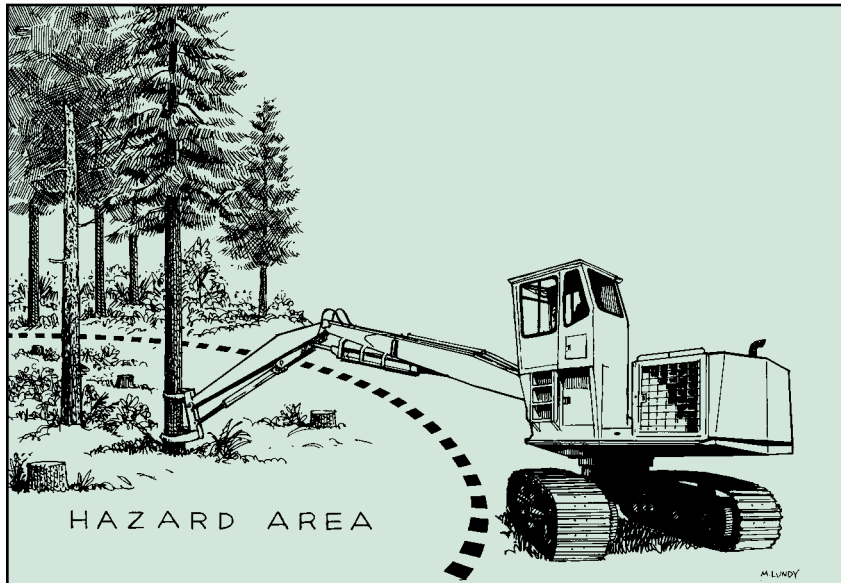

Fig. 11. — Felling trees from outside the hazard area.
- Mechanized felling equipment allows the operator to reach into the hazard area and fell timber while keeping the cab outside the hazard area (Fig. 11).